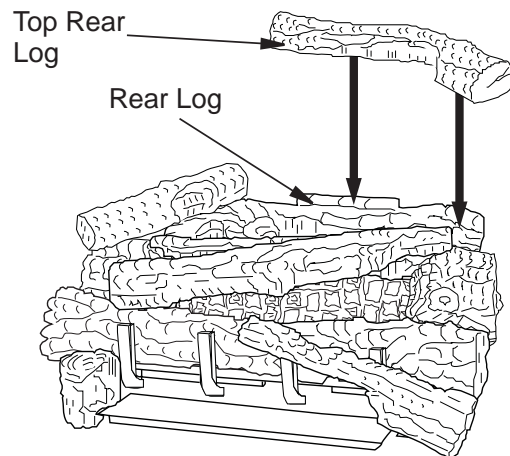

Figure 38 - Installing Top Rear Log
11. Place the top rear log onto the rear log as shown. The rear log has a projection that will fit into the recess area on the bottom of the top rear log (see **Figure 38**).